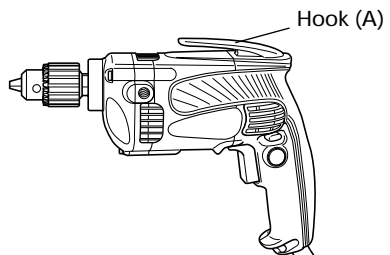

Fig. 14
- 11. Attaching the hook. (Optional accessory) (Fig. 14)